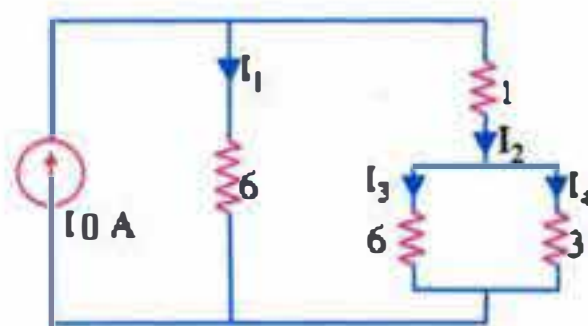

Fig. 2.42
8. Calculate the various branch currents of the circuit shown in Fig. 2.42. All resistance values are in ohms.